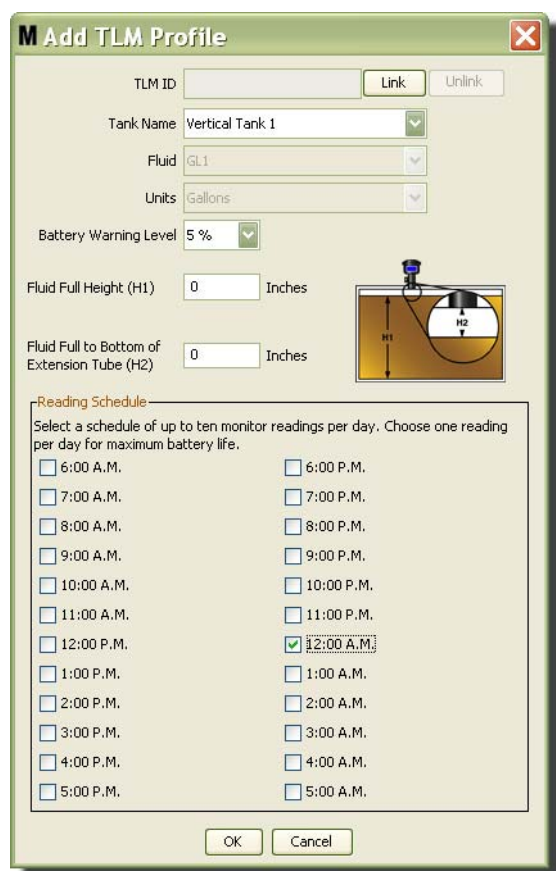

FIG. 121
3. The Add TLM Profile screen shown in FIG. 121 displays.
2. On the PC screen shown in FIG. 121, select the Link button and from the drop-down list select the TLM you are creating this profile for. This will link the TLM to the Matrix PC and enable communication between the two devices in the system.
After clicking the “Link” button the “Link” button in FIG. 121 will no longer be active and instead an “Unlink” button is active. Clicking the “Unlink” button breaks the association between this TLM and the Matrix PC.